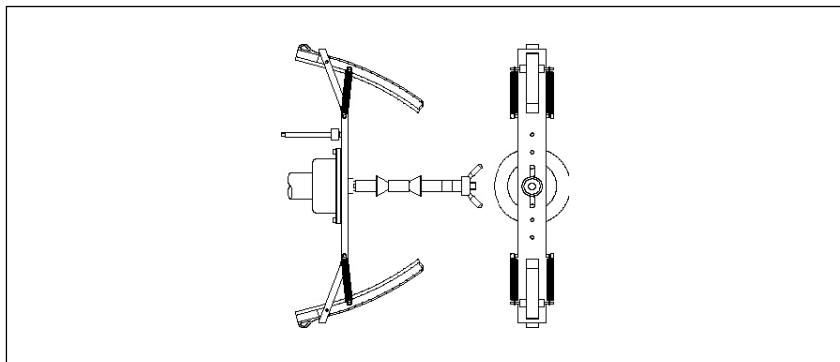

Fig. F4.2 Arranging calibration balance weight on the inner side of the fixture (in Cal2 stage)
8) **h12--cal** will be displayed after the rotation stops. Arrange the calibration balance weight in the hole marked with "CAL" on the inner side. See Fig. F4.2.
9) Adjust the fixture with the calibration balance weight on the top to the vertical position as shown in Fig. F4.2. Press [P8]  or lower the hood.